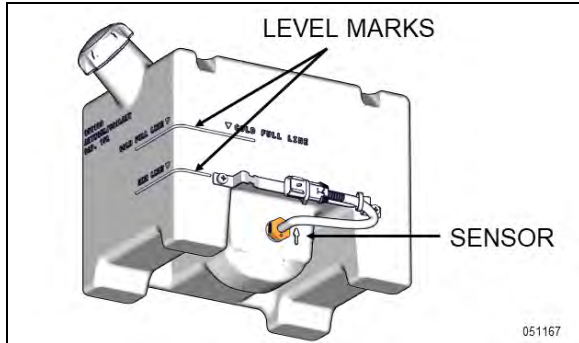

FIGURE 17: RECOVERY TANK SENSOR & LEVEL MARKS
*Cold engine* coolant level is correct when coolant level is visible between the two level marks on the recovery tank (Figure 2 & Figure 17). If coolant level is low, fill cooling system.